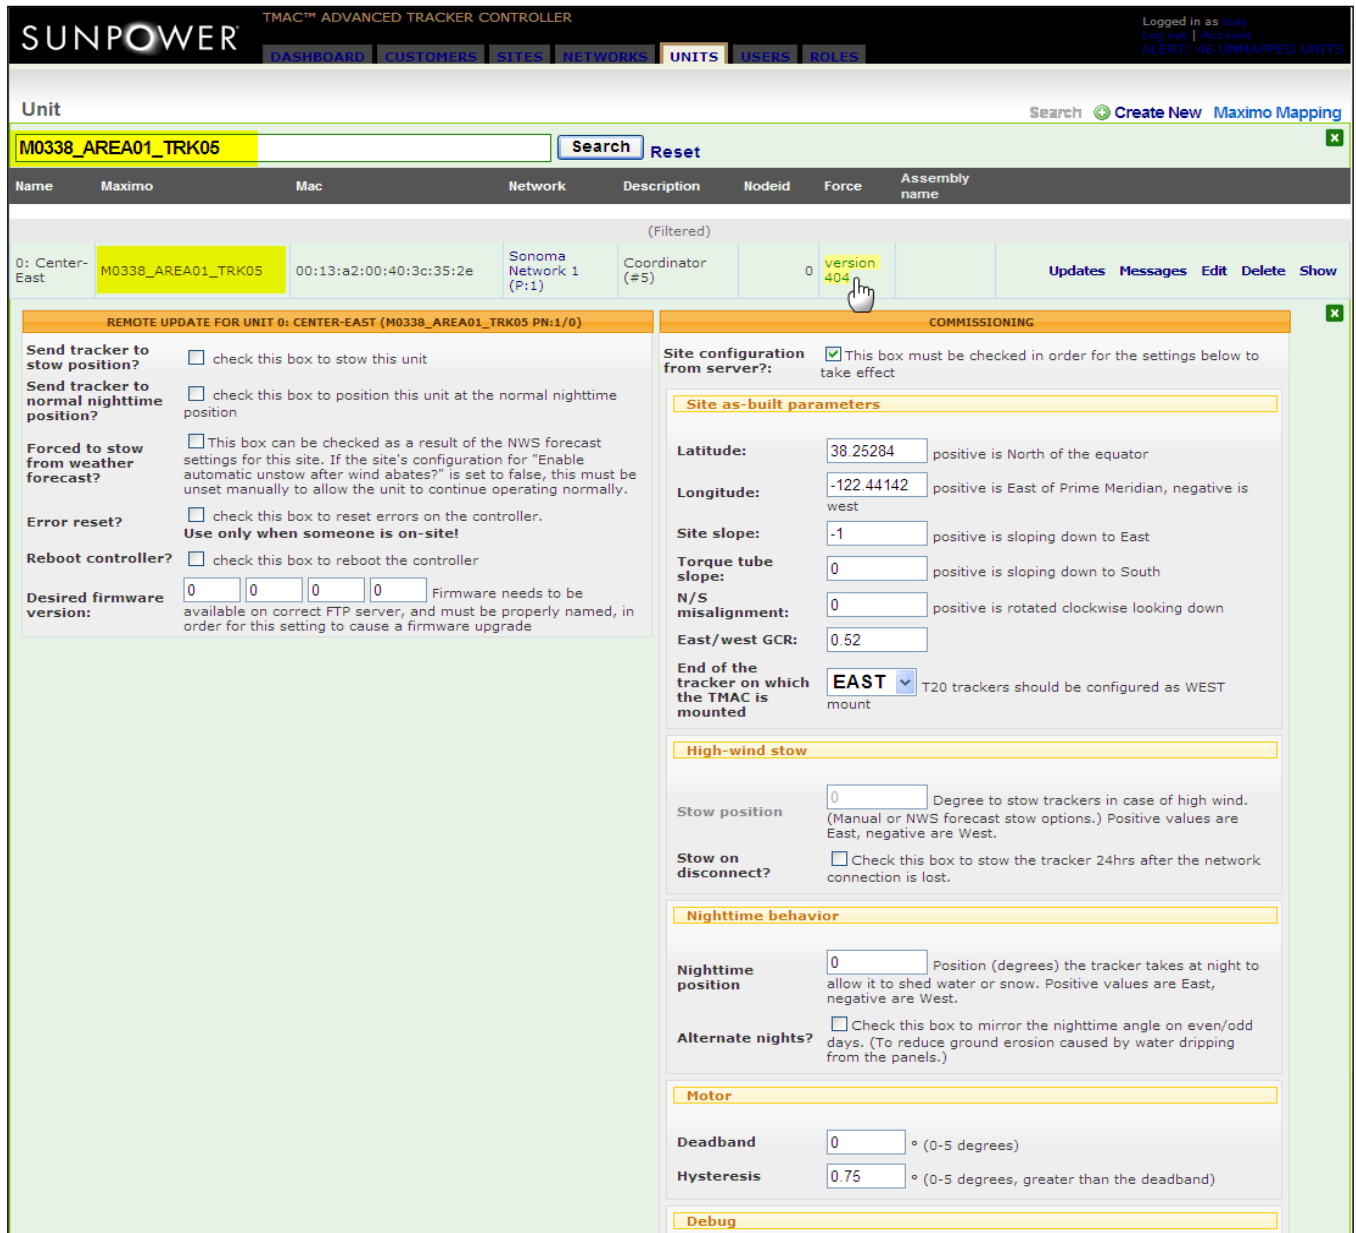

Fig. B44
3. Click the version link under the **Force** column to open the window that contains the **REMOTE UPDATE FOR [DTMAC UNIT]** and **COMMISSIONING** forms (Fig. B44).